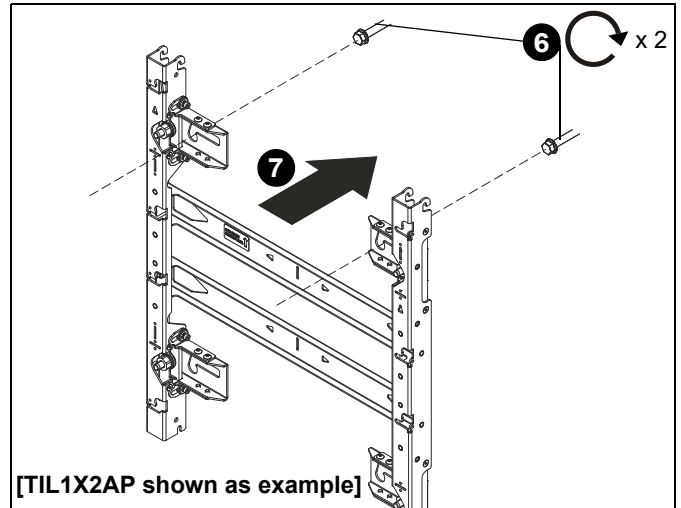

Figure 7
6. Partially install two lag screws into wall, but do NOT completely tighten to wall. (See Figure 7)
7. Hang wall mount, aligning upper mounting slots over fasteners, and adjust side-to-side for proper location. (See Figure 7)